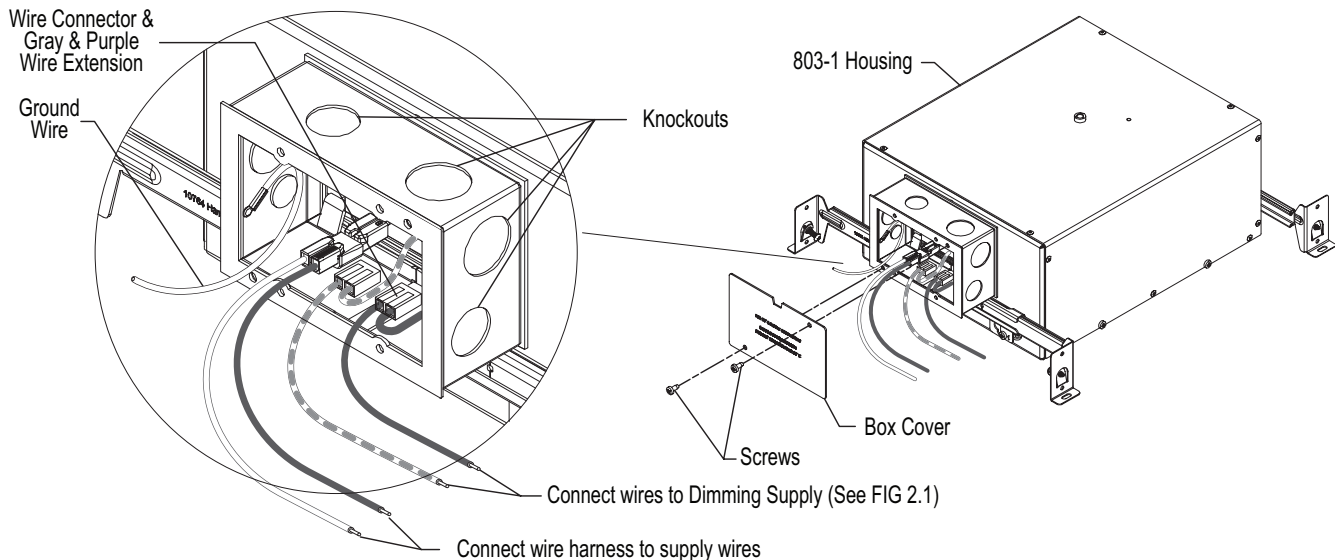

FIG 2.2 Wire Connections
2. Connect driver output wires using electrical connectors at Mounting Bracket – FIG 2.2.
3. Push all wires & connections completely inside wiring compartment – FIG 2.2.
4. Install Cover using screws provided – FIG 2.2.